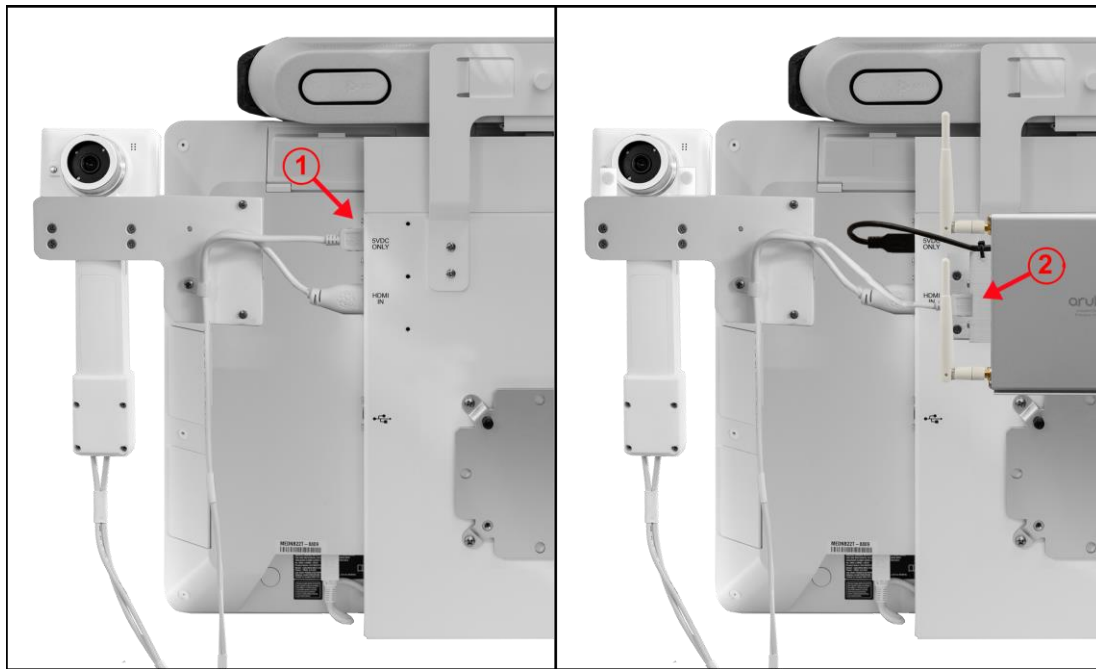

Figure 32. Horus Scope Cabling with Aruba Bridge Installed
2. When the optional Aruba bridge is installed on the system, the “5VDC ONLY” USB port is used to power the Aruba bridge, so it is necessary to re-route the USB power cable attached to the Horus Scope 3 to the USB female port on the side of the Aruba mounting bracket as shown in figure 32 above.